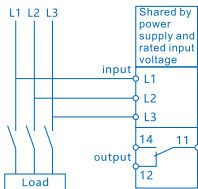
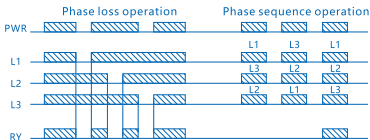
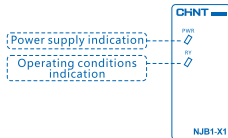

Figure 2 Wiring Diagram
Figure 3 Working Sequence Diagram
Figure 4 Panel Diagram
3.2 Wiring diagram: see Figure 2; working sequence diagram: see Figure 3; panel diagram: see Figure 4.